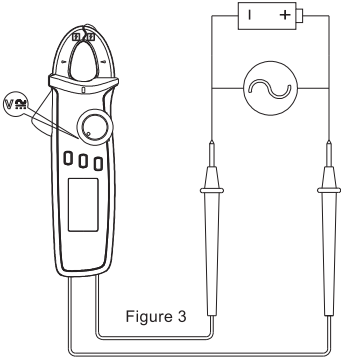

Figure 3
- Touch the tested component, such as power socket, with red and black probe (Figure 3).